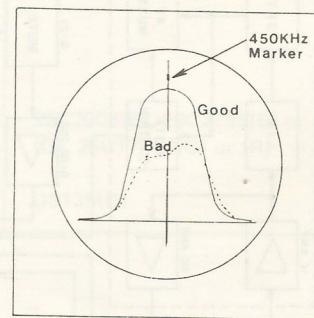

Fig. 2
- (c) When the waveform of the oscilloscope (Fig. 2) was confirmed, heighten the input sensitivity of oscilloscope as possible, and lower the output of sweep generator. At this moment, if the waveform seems to be under the influence of external radio wave, change the receiving frequency of the receiver until the influence is minimized. And then perform IF adjustment.